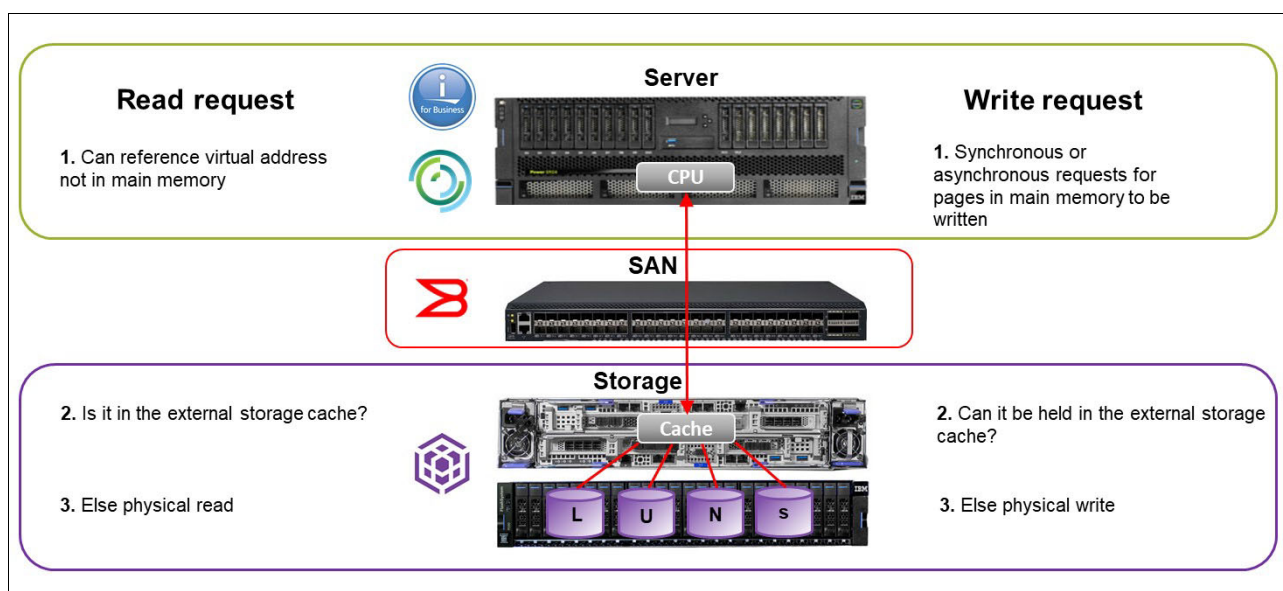

Figure A-5 Disk subsystem
**Note:** In Figure A-5 on page 535, auxiliary storage pool (ASP) is conformed and assigned LUNs from IBM Spectrum Virtualize to the IBM i. It shows an application request and update to a database record. Throughout the time TIMI task is in progress, an interaction above TIMI can ensue. The interaction does not continue until the TIMI task concludes.
Typically, an external disk subsystem (storage system) connects a server through a SAN, as shown in Figure A-5.